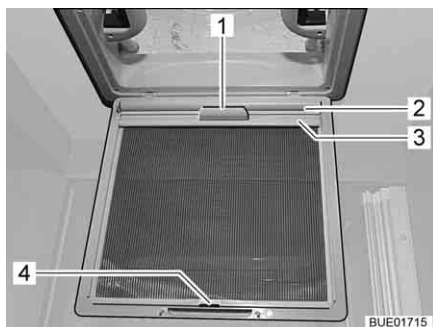

Fig. 95 Blind (skylight)
- Using the handle (Fig. 95,1), pull out the blind (Fig. 95,2) and hook the retainer (Fig. 95,3) into the hook (Fig. 95,4) on the insect screen.
- Release the retainer (Fig. 95,3) from the hook (Fig. 95,4) and, using the handle (Fig. 95,1), slowly return the blind (Fig. 95,2).